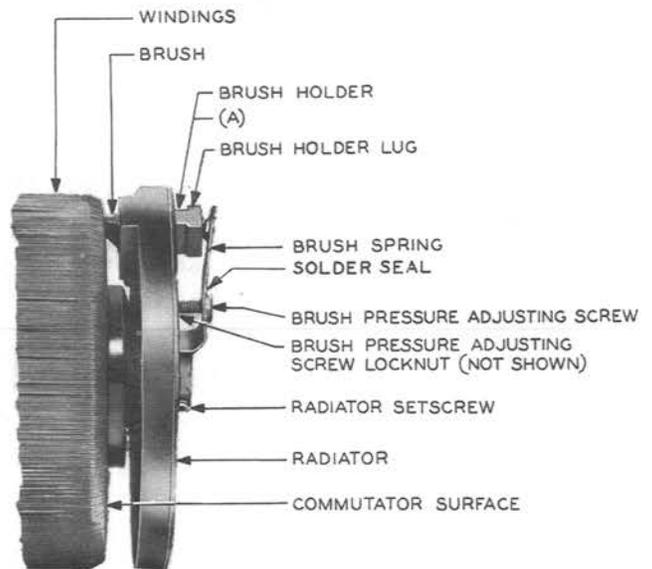

Fig. 3 — KS-5657 Autotransformer Having External Spring Brush Assembly
(1) **KS-5657 and KS-15594 Autotransformers — Brush Assemblies With External Spring, Fig. 3(A):**